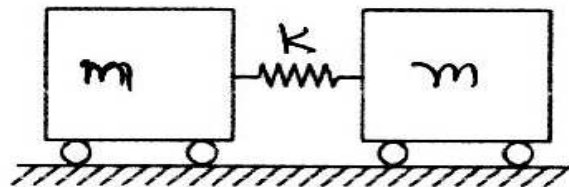

Fig 7 (a)
- 7 a. Fig. 7(a) shows two rails cars of 10 tonne each. They are coupled by springs of total stiffness 2.946e6 N/m. Find the natural frequencies of the system.